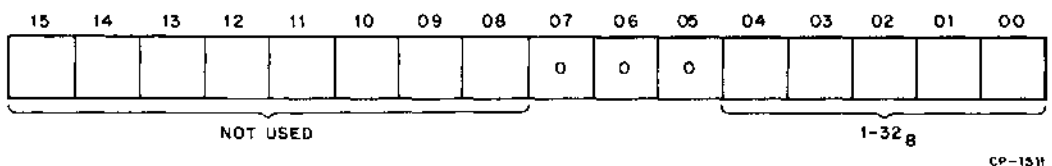

Figure 3-3 RXSA Format (RX11)
3.2.2.2 RXSA – RX Sector Address (Figure 3-3) – This register is loaded to indicate on which of the 32₈ sectors a given function is to operate. It can be addressed only under the protocol of the function in progress (Paragraph 3.3). Bits 8 through 15 are unused and are ignored by the control.